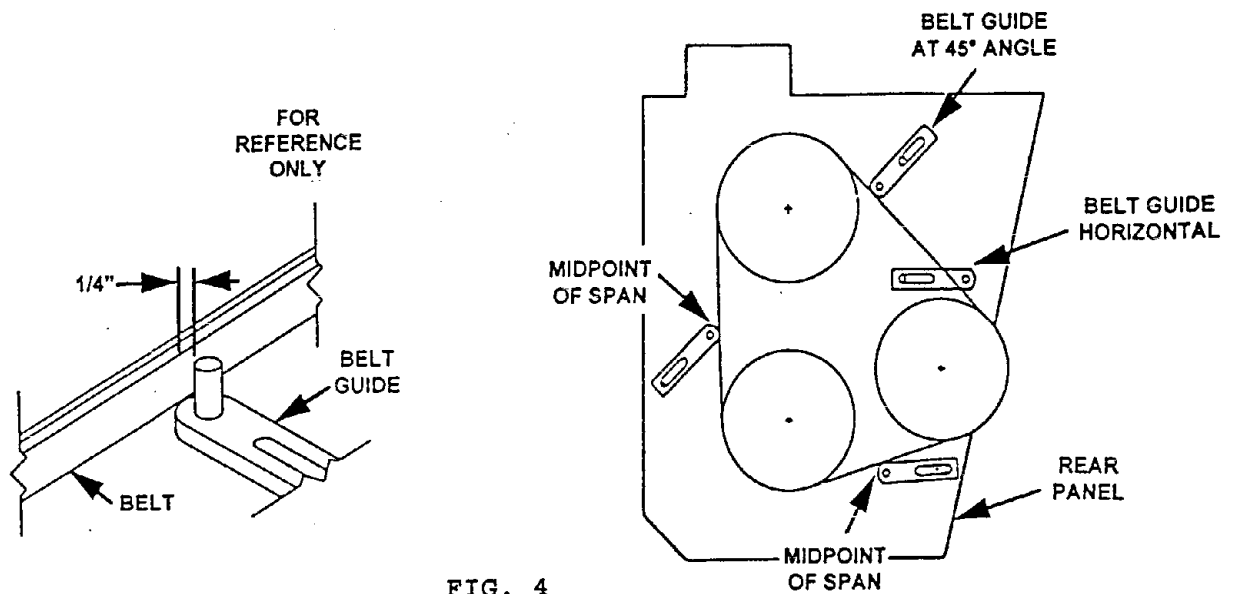

FIG. 4
- d) Four belt guides are used on the secondary drive belt. Adjust belt guides with the PTO lever *engaged*. Adjust the belt guides so pins are 1/4" (.6 mm) away from the belt (See Figure 4).